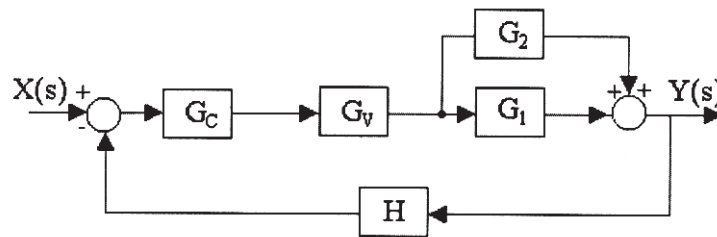

Figure Q7 (b)
- b) Figure Q7(b) shows a block diagram. Simplify and find the Relation between  $Y(s)/X(s)$ . [8]